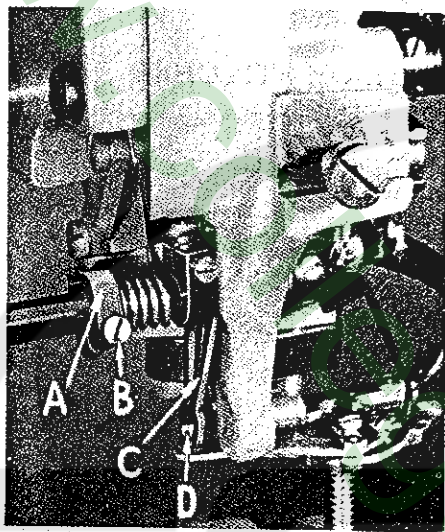
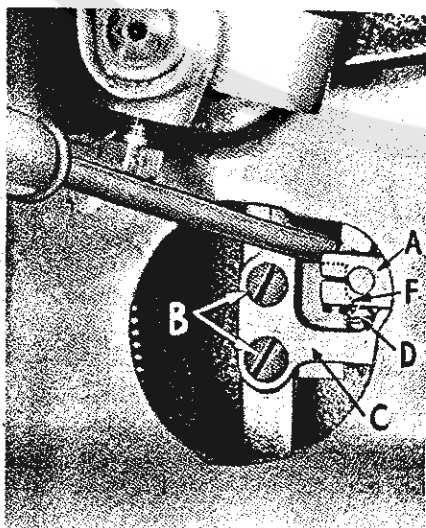
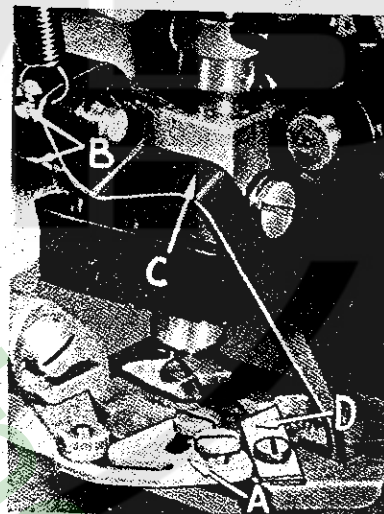

Fig. 12
Fig. 14
Fig. 13
Check position of thread wiper crank (A, Fig. 14) through the access hole at the back of the machine. With the machine in stop position, this crank should be horizontal or slightly below to the right. If the crank is not in this position, loosen the two set screws (B, Fig. 13) in the thread wiper finger (C). Return to the back of the machine, and loosen the two screws (B, Fig. 14) in the cam plate (C), and move the crank (A) to the desired position. Now, slightly tighten one screw in the thread wiper finger (C, Fig. 13).
position to hold the crank (A) horizontally as previously described. Now, return to the thread wiper finger (C, Fig. 13), and check its position.
Rotate the spring collar (A, Fig. 12), and tighten binding screw (B) when collar has been turned about 45° from zero tension.
With thread cutting finger (A, Fig. 13) at the back of its travel, set the trimmer lever (C, Fig. 12) so that it is over the center of the ball (D) from front
The screw stud in the crank (D, Fig. 14) should rest against the lower edge of the cam lobe (E) and against surface of the cam below the lobe. To do this, insert a screw driver through the opening in the cam plate, and using it as a lever, apply downward pressure to the cam while tightening the two screws (B) and maintaining the cam plate (C) in its proper
The thread cutting knife (D, Fig. 13) should be set forward in its slot enough to provide proper cutting action.